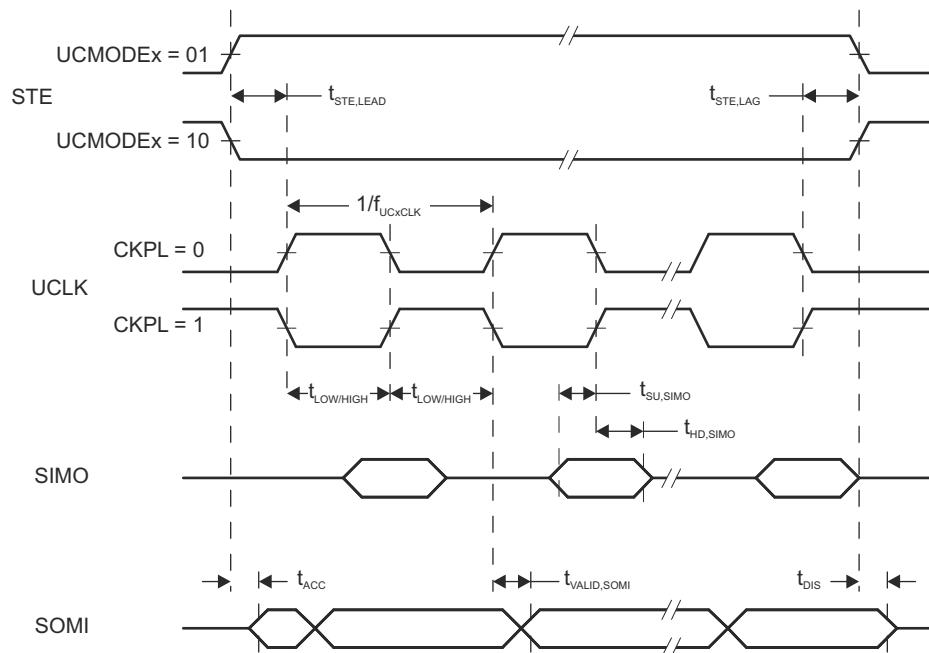
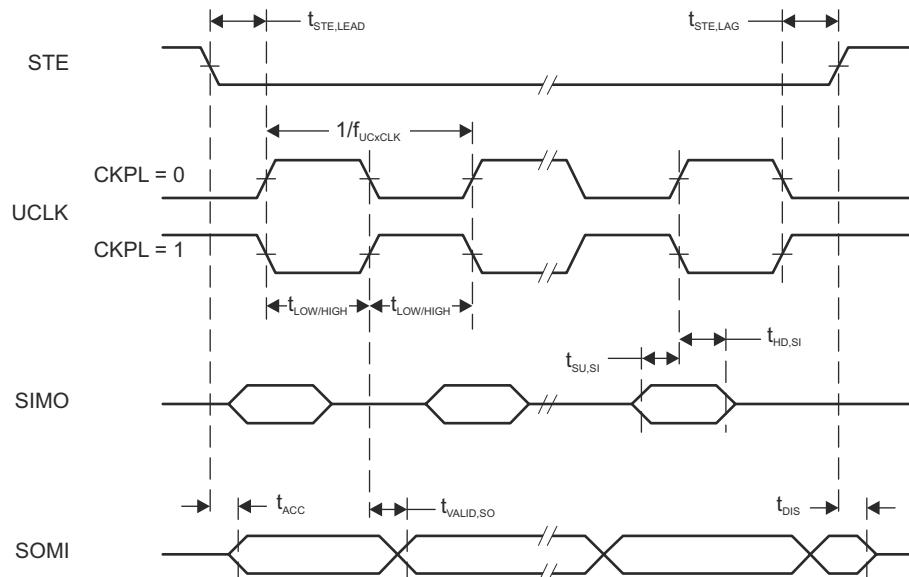

Figure 8-12. SPI Slave Mode, $\text{CKPH} = 0$
Figure 8-13. SPI Slave Mode, $\text{CKPH} = 1$
(2) Specifies the time to drive the next valid data to the SOMI output after the output changing UCLK clock edge. See the timing diagrams in Figure 8-12 and Figure 8-13.
(3) Specifies how long data on the SOMI output is valid after the output changing UCLK clock edge. See the timing diagrams in Figure 8-12 and Figure 8-13.